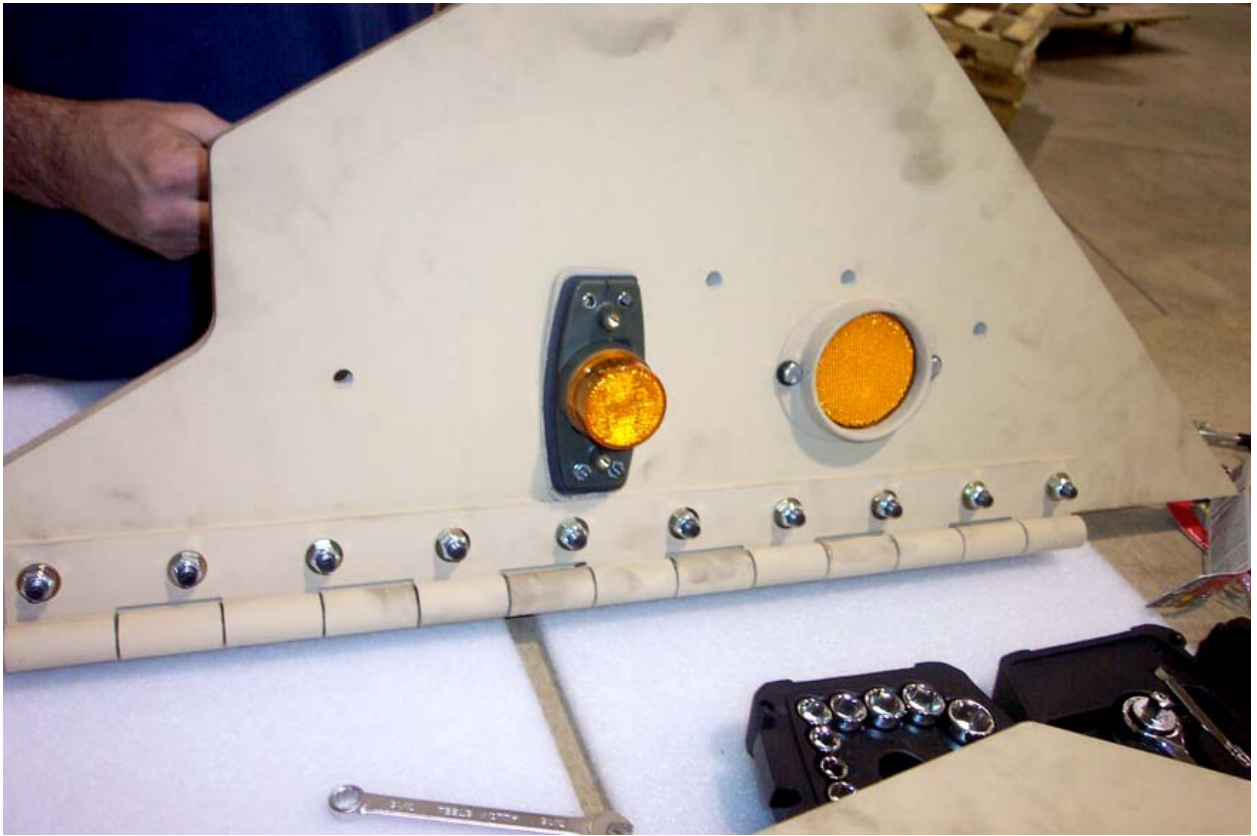

Figure 25. Install the amber clearance light and amber reflector onto the Front Side Cab Armor Panel.
- g. Install the existing clearance light gasket onto the amber clearance light, feed the clearance light wire through the appropriate hole in the Front Side Cab Armor Panel (P/Ns 111432-1 and 111432-3). Secure the amber clearance light onto the armor panel using four bolts (3/16 - 24 x 1.250 LG) and four nuts (3/16 - 24) (See Figure 25).